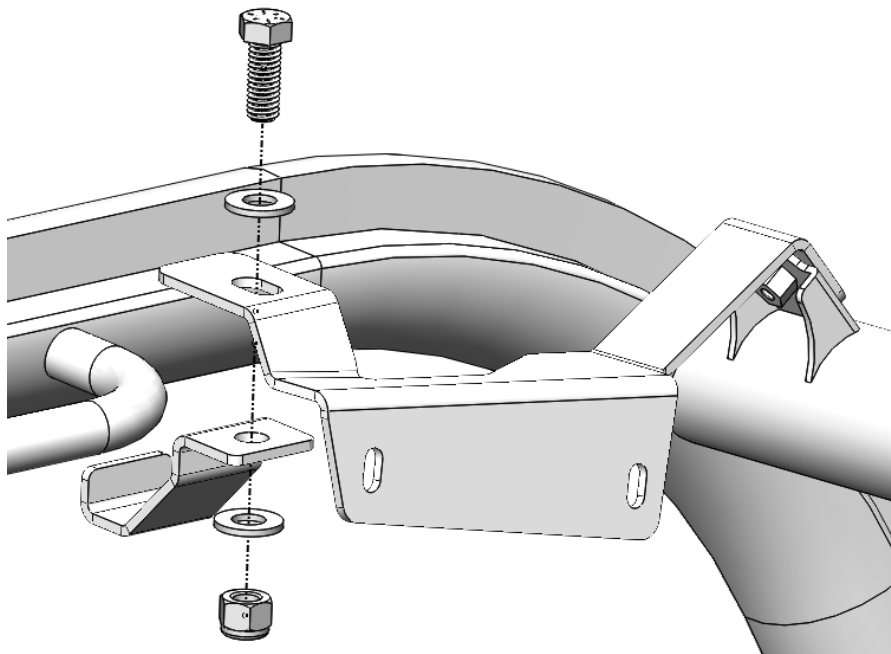

Figure 5: Mount the clamping bracket to the frame. Driver side shown. (Passenger side similar)
4. Use the supplied 3/8"-16 bolt, washers, and nyloc nut to secure the small clamping bracket on the frame as shown. Loosely secure the nut, waiting to fully tighten it until the *Audio Mini* is in the desired position. See Figure 5. Note: Driver side shown. (Passenger side similar)
- Tighten both clamping bracket bolts to secure them to the frame and the *Audio Mini* mounting brackets. See Figure 5. Torque the bolts to 25 ft.-lbs.